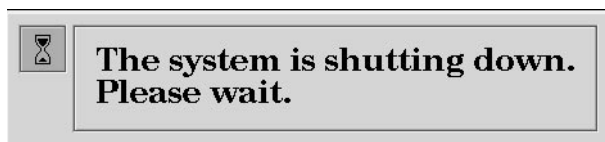

Figure 8-5 System Shutdown Notifier
2. After a few seconds you see the notifier shown in Figure 8-5.